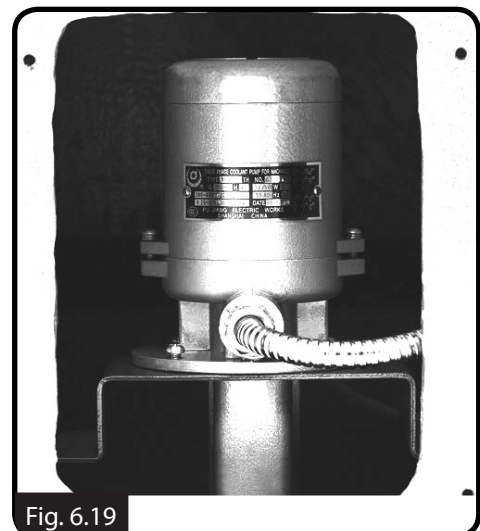

Fig. 6.19
1. Remove the access cover at the rear of the lathe (Fig.6.19).